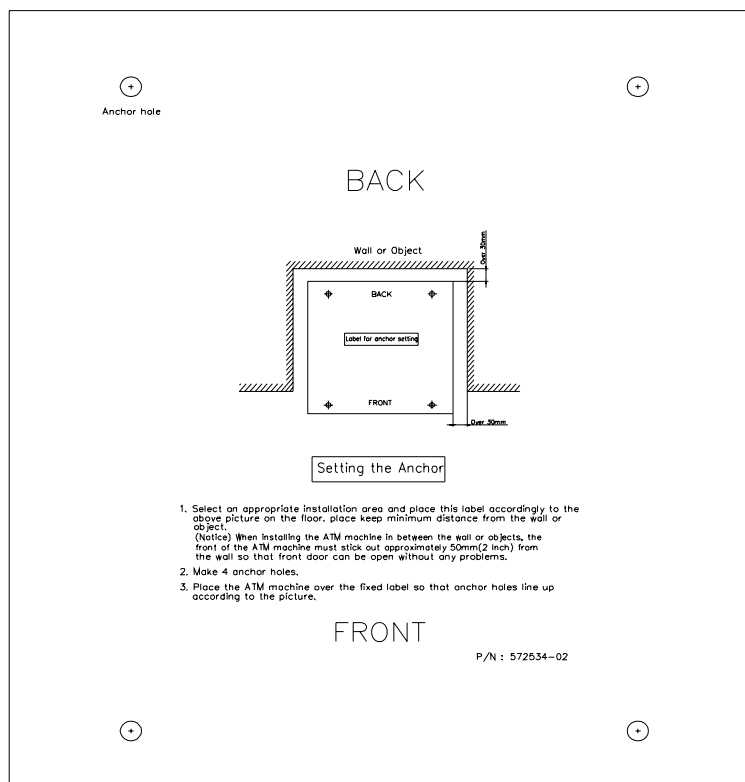

Fig. 4.2.1
- 1) Place the “Anchor bolts locate sheet” at the place where the machine is to be installed. (refer to Fig. 4.2.1)